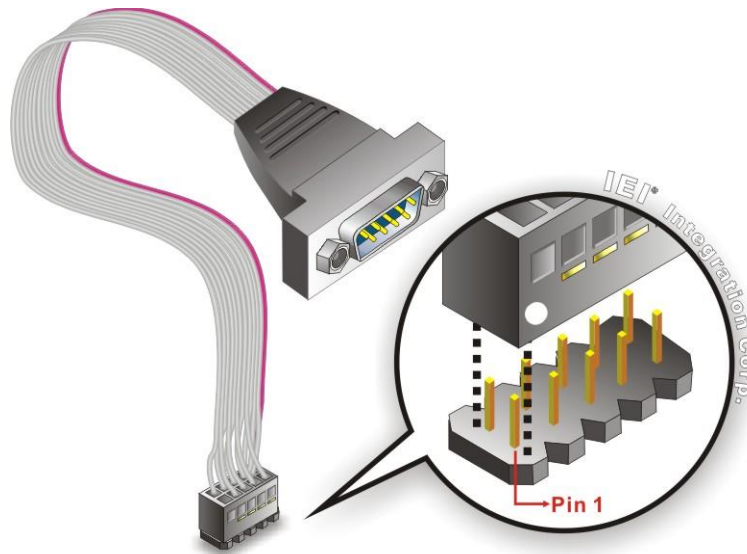

Figure 4-13: Single RS-232 Cable Installation
- Step 2: Insert the cable connector.** Align the cable connector with the onboard connector. Make sure pin 1 on the board and connector line up. Pin 1 on the cable connector is indicated with a white dot. See **Figure 4-13**.